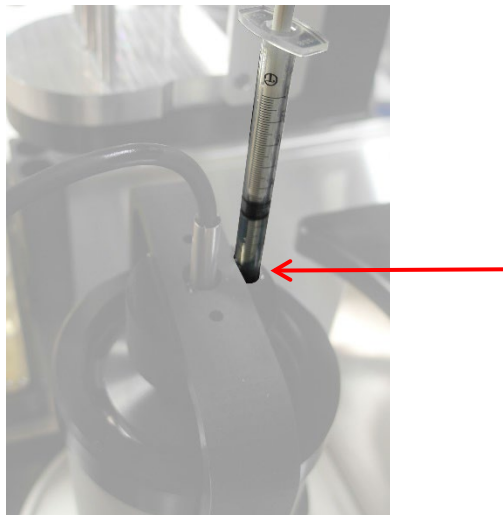

Figure 20: Inject Viscosity Standard N100
8. Fill syringe with Viscosity Standard N100 and carefully inject into opening on the viscometer cell assembly. See Figure 20.